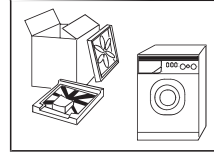

Figure 1
- As shown in Figure 1 remove all the packing materials (including the foam base).